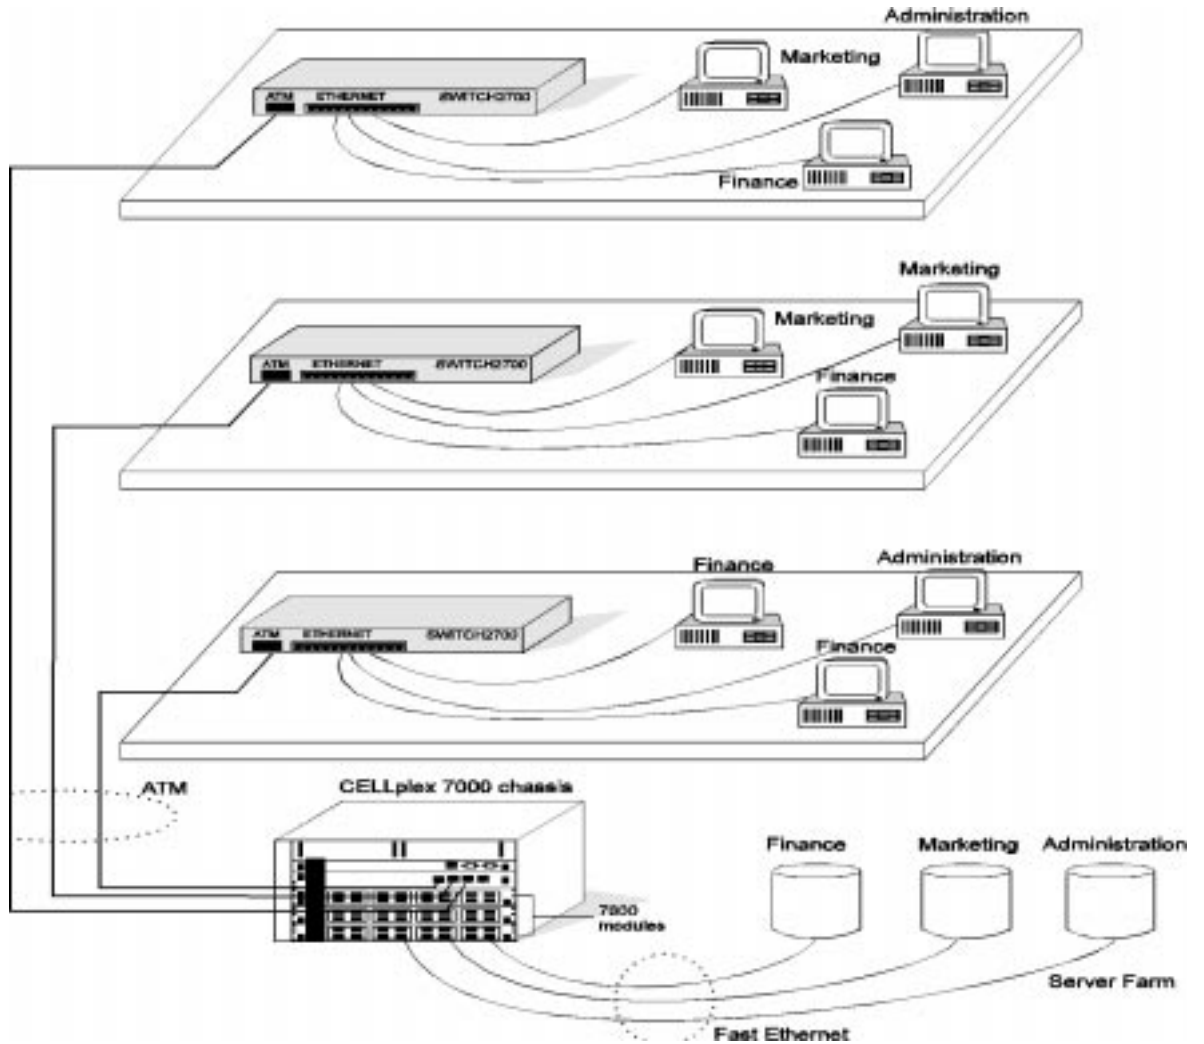

Figure 1-6 Server farm
- Relieves traffic bottlenecks for workgroup servers and server farms (see Figure 1-6).
Server Farm Figure 1-6 shows the 7600 Card used in a "server farm". Up to 16 servers can be connected through Fast Ethernet links to the 7600 Card. The host CELLplex 7000 is shown connected through ATM links to the Super-Stack II Switch 2700 units located on different floors.